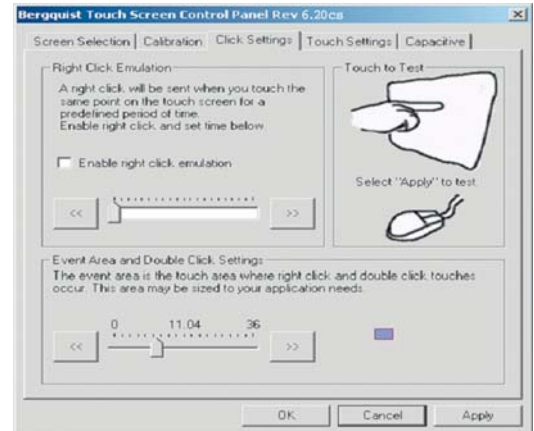

Figure 14
1. Click "Enable right click emulation" box (see Figure 14).
1. Use the slider bar to increase or decrease the event area size (see Figure 14).